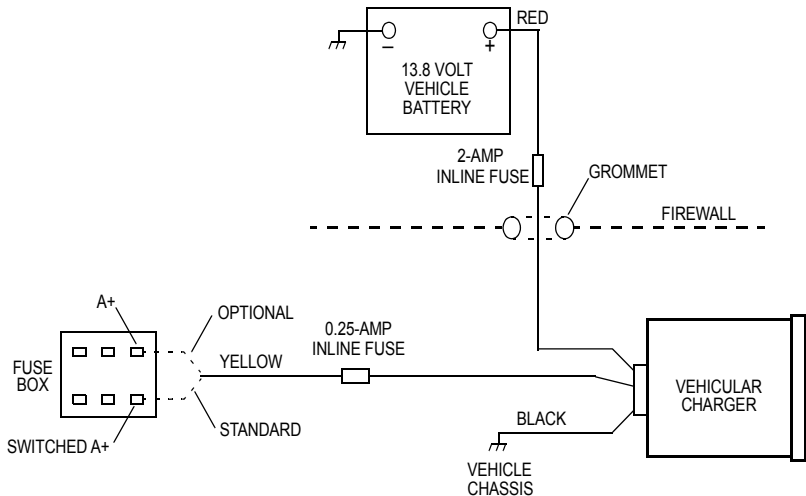

Figure 2 Cable Console
7. Referring to Table 1 and Figure 2, connect the red (A+) wire (with the inline fuse) of the supplied cable to either an unswitched terminal on the vehicle's fuse box or directly to the positive (+) terminal of the vehicle's battery. Always position the fuse as close to the voltage source as possible.